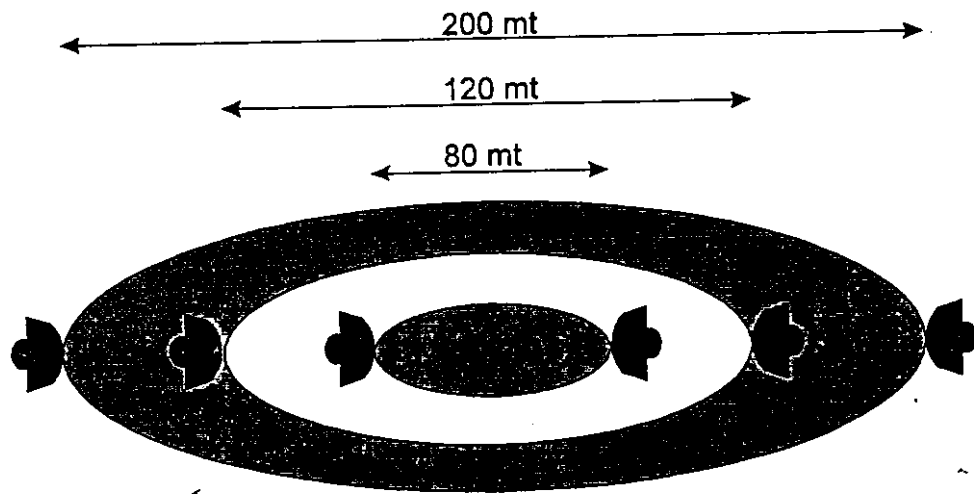

Figure 2 - Variation of the dimension of the sensitive zone on the variation of the distance
- **The effective distance between transmitter and receiver, depending on the type of antenna, determines the other two dimensions, due to the fact that the opening angle of the antennae used remains constant to the variation of the reciprocal distance between transmitter and receiver. (FIG. 2)**